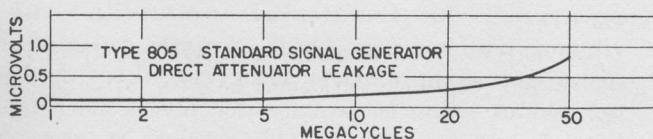

Figure 8. Direct attenuator leakage as a function of frequency. This is significant only on the lowest multiplier position.
**3.15 Direct Leakage in Attenuator:** Direct leakage, one source of which is capacitance across the attenuator from input to output, results in a fixed error which is effective only on the lowest multiplier step, and increases with frequency. This is shown in Fig. 8.